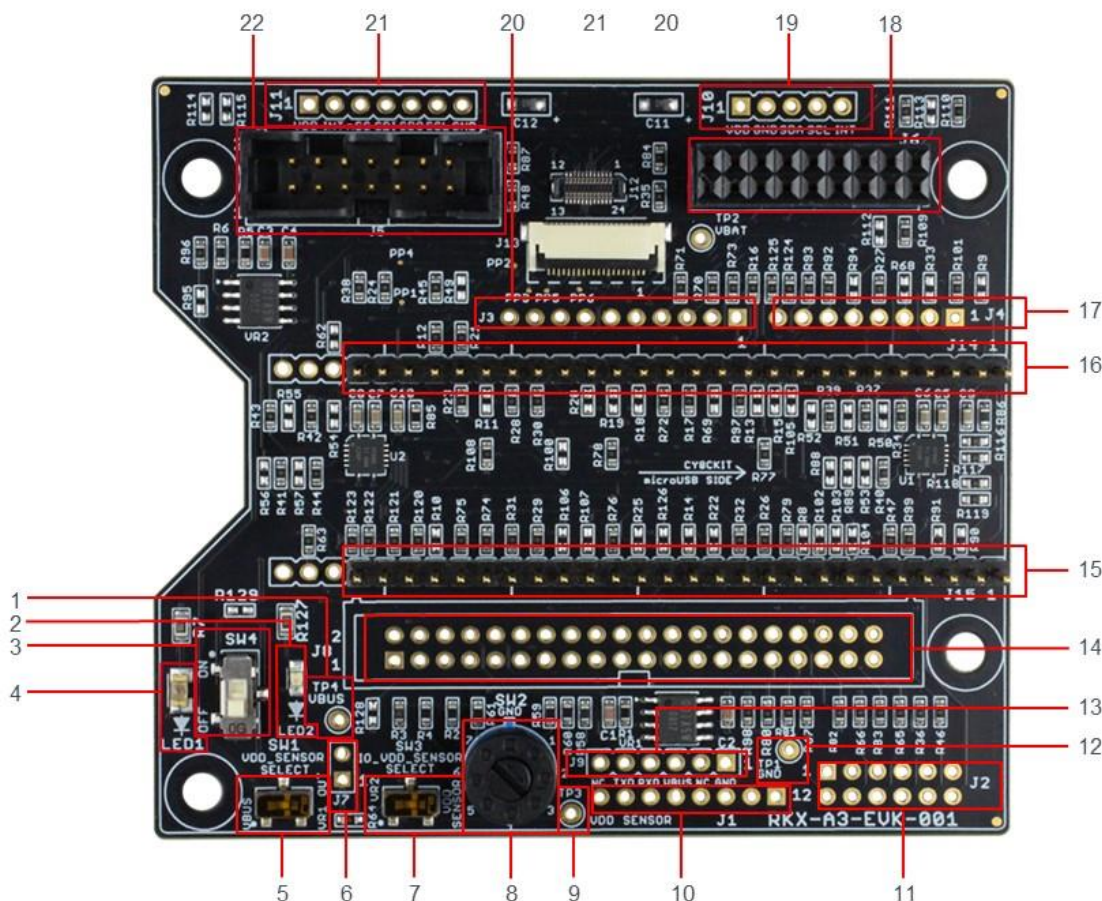

Figure 108. RKX-A3-EVK-001 Main Features
- If the SW4 is ON, check that the 7-position rotary switch SW2 (*Figure 108 and Table 2*) is not stuck in the intermediate position. The switch can be turned with a small flat screwdriver (*Table 2*).
**NOTE:** When using the ROHM EVK GUI SW and the SW4 in the incorrect position, the Help menu item (4.1.9.4 *About Host Adapter Board*) would still work properly because the information about the host adapter firmware is read out from the CY8CKIT-059 Prototyping Kit, not the sensor.